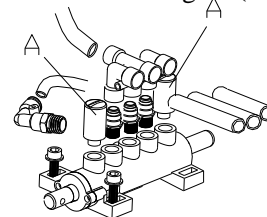

Fig 13
2. Loosen the valve Muffler (A) which belong to Jaws open and close Pedal and Bead Breaker Pedal; (**Fig 13**)
3. Clean the mufflers with compressed air, please replace it referring to the spare parts list if it is damaged. (**Fig 13**)